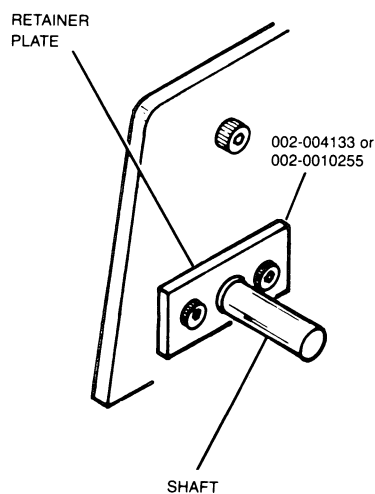

Figure 5.24 Paper Feed Drive Shaft Removal/Replacement
7. Slide the drive shaft to the right out of the frame (see Figure 5.24 on following page).